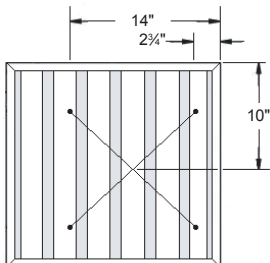
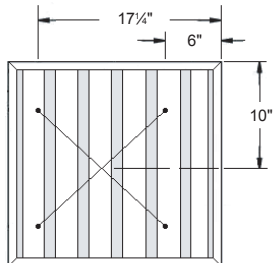

Figure 13
Figure 14
- Measure the velocities. Set up the Shortridge meter. Position the grid as shown in Figure 13 and Figure 14. Average the two measurements. Take velocity readings for each filter.